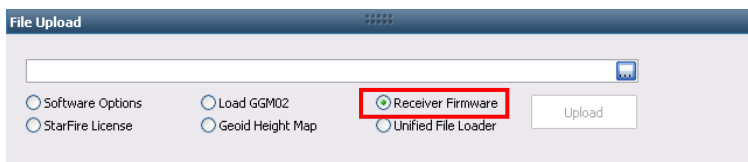

Figure 20: Receiver Firmware Option
39. Select *Receiver Firmware* on the *File Upload* window (see Figure 20).